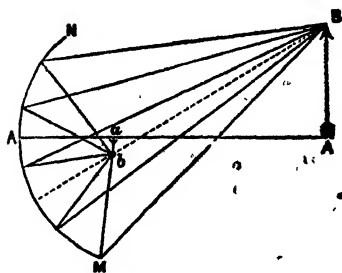

FIG. 10.
4. When the mirror is concave, and the object placed at a distance from the mirror greater than its focal length (Fig. 10), the image is real, inverted, and diminished. Conversely, if we suppose  $a b$  an object,  $A B$  will be the image, in this case real, inverted, and enlarged.